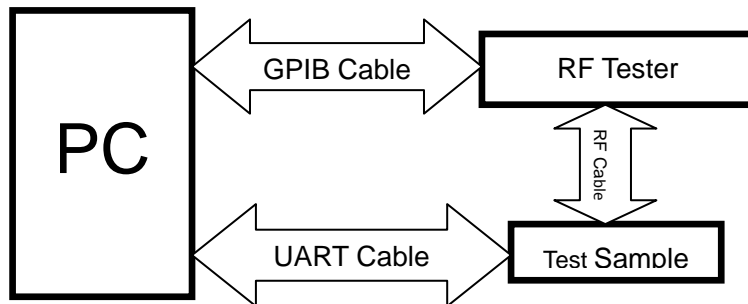

Figure 1
- (1) The equipment setup as shown in Figure 1.
- (2) Operation of PC adjusts equipment.
- (3) Use RF Engineering Tools at PC side.